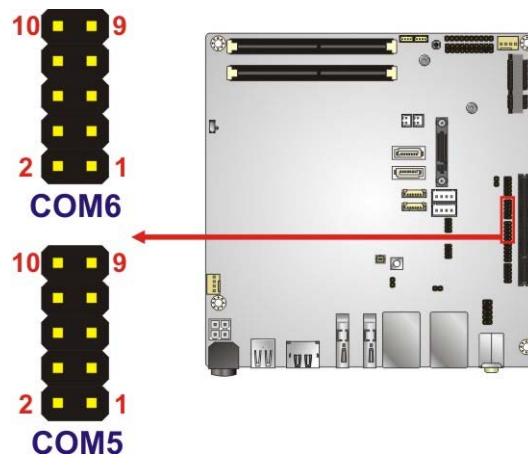

Figure 3-18: RS-232/422/485 Connector Locations
- CN Location:** See **Figure 3-18**